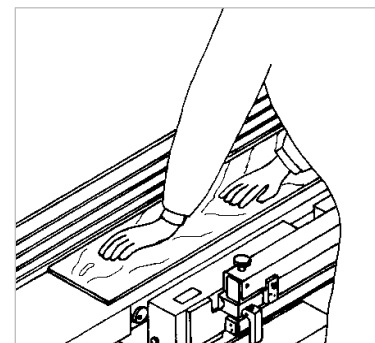

Figure 25: Planing up to 65 mm (3)
- As soon as it is possible, the workpiece is only pushed forward on the outfeed table (see ⇒ Figure 25).